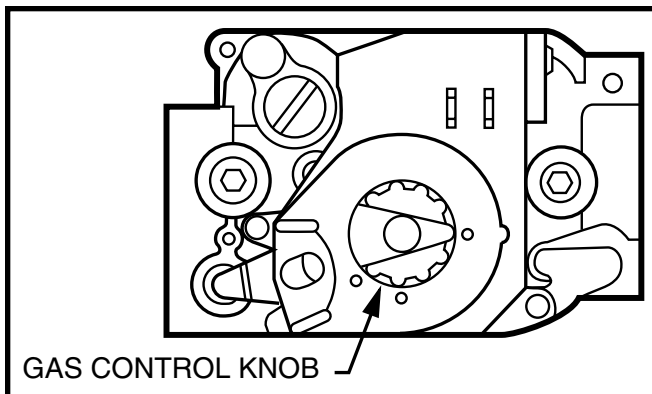
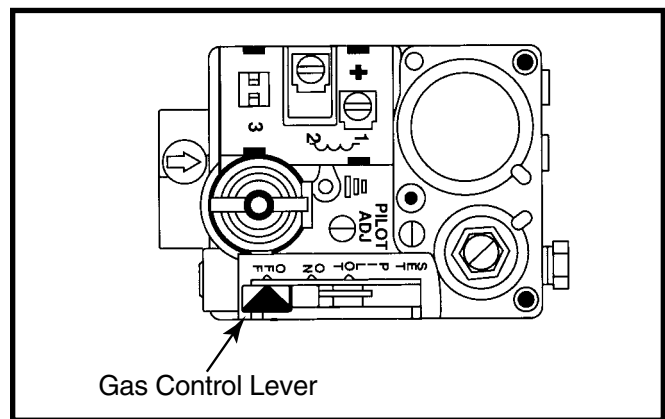

Figure 30. Direct Ignition Gas Valve - Honeywell
Figure 31. Direct Ignition Gas Valve - Robertshaw
- **Honeywell:** push in and turn the gas control knob clockwise to **OFF**. See Figure 30.
- **Robertshaw:** push the gas control lever (**Do not force!**) to the **OFF** position. See Figure 31.
4. Wait ten (10) minutes to clear out any gas. If you smell gas, **STOP!** and follow the Safety Information on page 22. If you do not smell gas, proceed to next step 5.
- **Honeywell:** push in and turn gas control knob counter-clockwise to **ON** (Figure 30).
- **Robertshaw:** push the gas control lever to the **ON** position (Figure 31). **Do not force!**
- Honeywell (Figure 30): Turn gas control knob clockwise to **OFF**, Robertshaw (Figure 31): Push the gas control lever to **OFF**.
- **Honeywell:** push in the gas control knob and turn clockwise to **OFF** (Figure 30).
- **Robertshaw:** push the gas control lever to **OFF** (Figure 31). The lever cannot be placed in the off position unless it is pushed in slightly. **DO NOT FORCE!**
- **Honeywell:** push in and turn the gas control knob clockwise to the OFF position (Figure 30).
- **Robertshaw:** push the gas control lever to the OFF position (Figure 31).